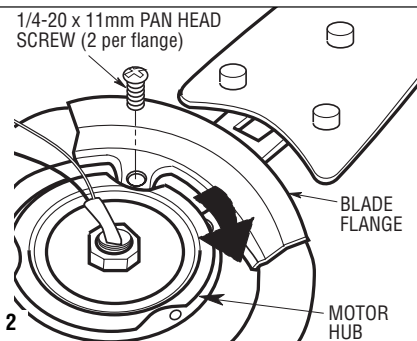

Figure 2
3. Rotate the motor hub to position the slot in the motor plate over a fan motor/ housing flange hole. Attach the blade flange assembly on the fan motor/ housing by slowly rotating the motor hub to align screw holes. Tighten the screws securely while interlocking the flange assemblies as you rotate the hub (Figure 2).